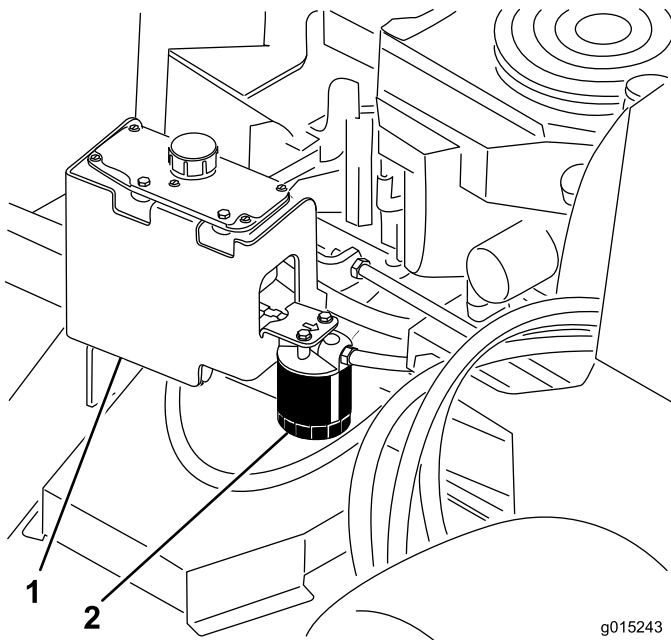

Figure 75
3. Locate the filter and place a drain pan under filter (Figure 75).